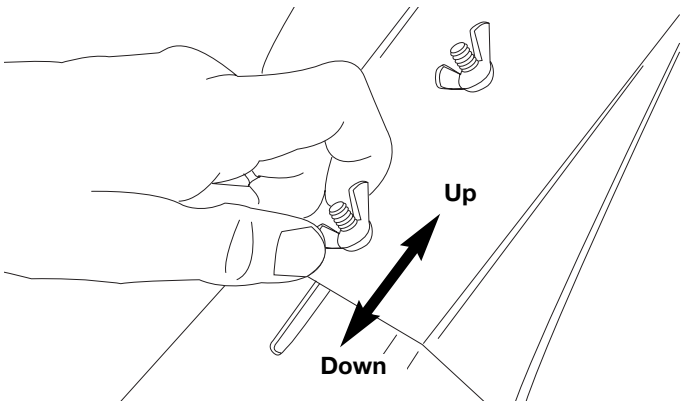

Fig. 5
2. Loosen (do not remove) the two wing nuts on the tine guard (Fig. 5).